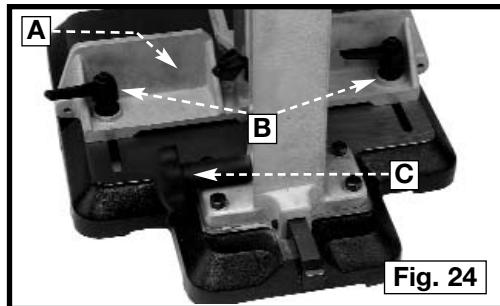

Fig. 24
The fence (A) Fig. 24 can be moved in or out by loosening the lock handles (B), and rotating the fence rack handle (C). Move the fence to the desired position and tighten the handles (B).